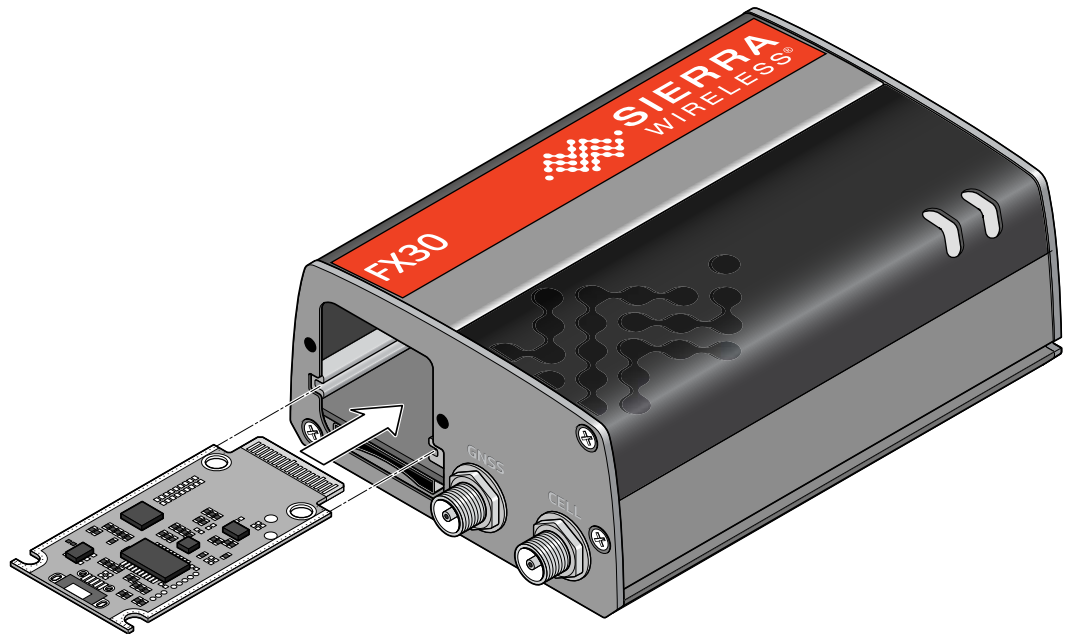

Figure 2-2: Installing the IoT Expansion Card
2. Orient the IoT Expansion card as shown in Figure 2-2 and slide the card into the IoT slot.